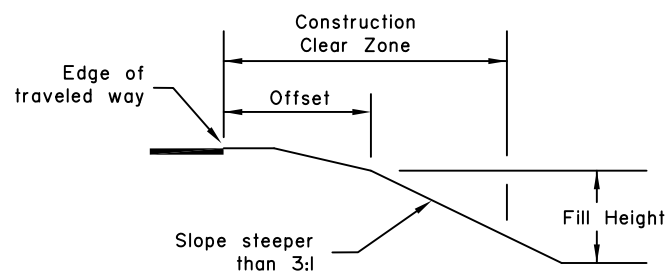

FIGURE 5
- Use this table for fill slopes steeper than 3:1 or water hazards that start within the Construction Clear Zone (CCZ). See Figures 5, 6, and 7.